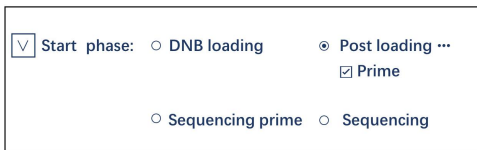

Figure 10-1: Select re-start Post loading
- If starting from the Post loading prime, select "Prime" in Figure 10-1. If starting from the step Post loading, do not select "Prime".